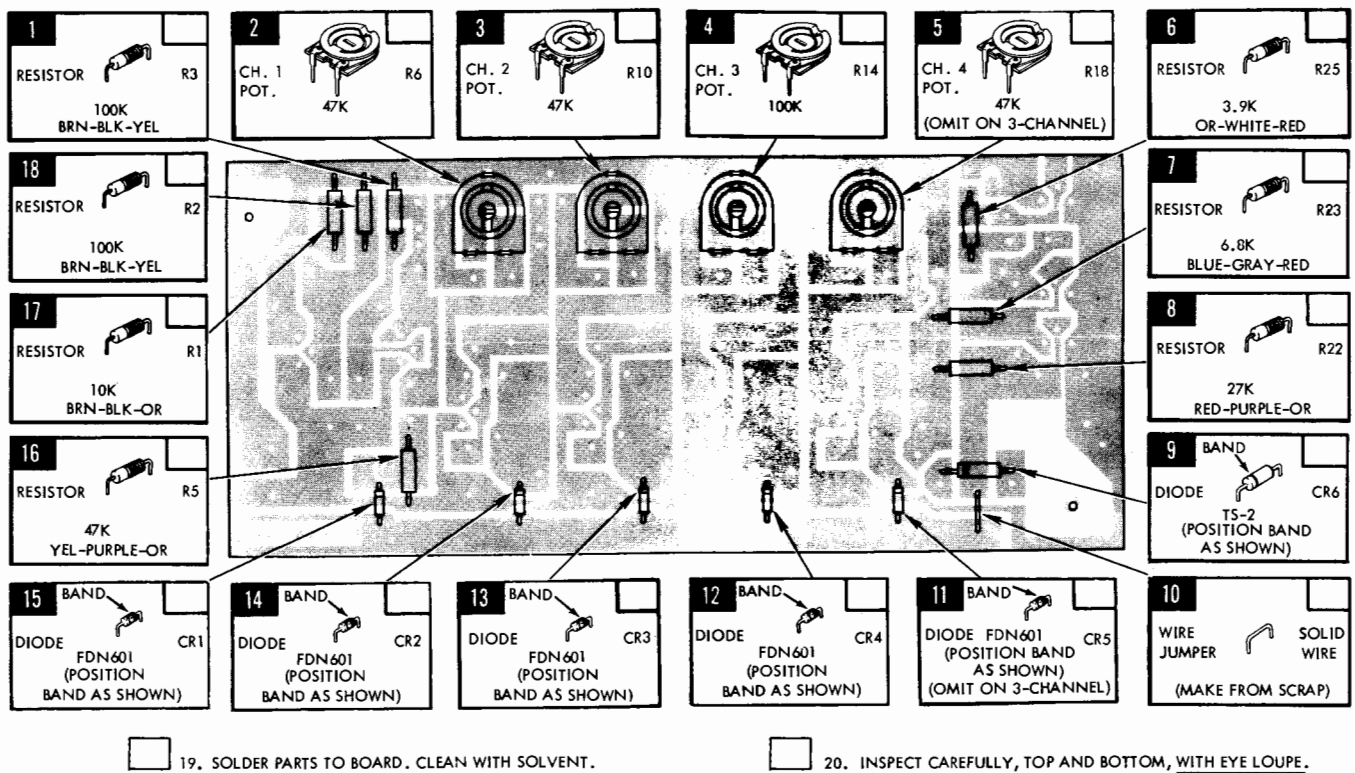
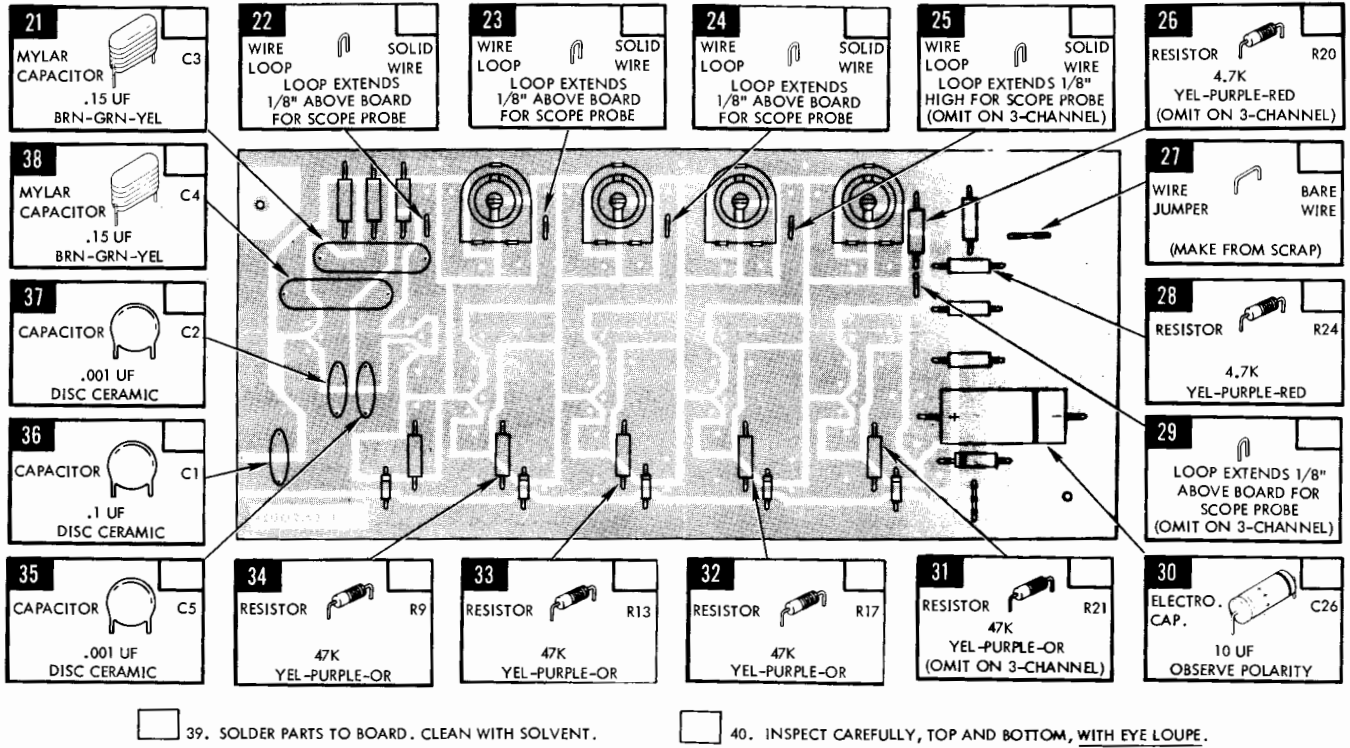

Figure 4. Logic Board Assembly (Sheet 1 of 4)
Figure 5. Logic Board Assembly (Sheet 2 of 4)
- Check parts against the parts lists and figures 4 thru 7 for parts identification. If this is a Half-Kit, proceed directly to step 79.
- Position printed circuit board E530T, metal side down, so that hole arrangement corresponds with layout in figure 4. Proceed with assembly steps in figure 4, then continue with steps in figures 5, 6 and 7. Omit steps 1 thru 78 on Half-Kits.